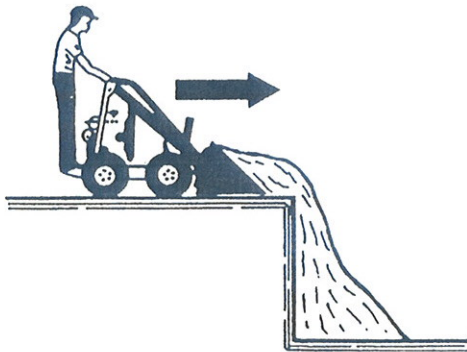

FIGURE 17
1. When filling a trench or a hole, drive up the hole with bucket low or push material up to edge, as in **Figure 17**.